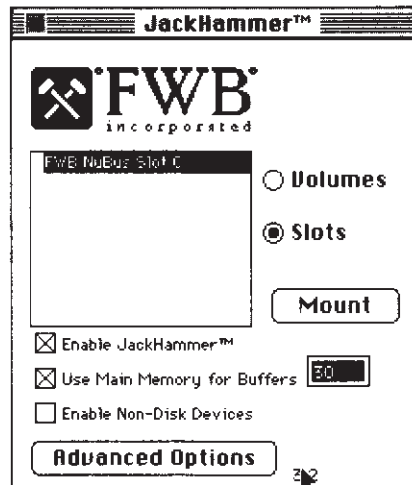

Figure 12: Hold the Option key and click on the version number in this screen to force update the JackHammer's Flash ROM.
2. Hold down the Option key and click once on the version number text in the lower right corner of the window (see Figure 12).